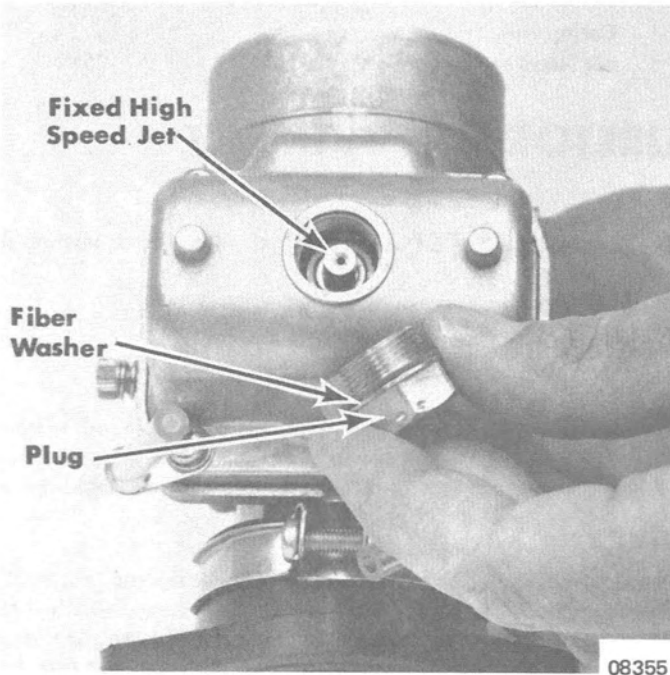

Figure 6. Carburetor Fixed High Speed Jet
1. Each carburetor is equipped with a replaceable fixed high speed jet. Fixed high speed jet is located in carburetor float bowl and is visible when plug and fiber washer are removed from float bowl. (Figure 6) Each jet is stamped with a number which indicates maximum amount of fuel flow that it can meter; i.e., No. 310 stamped on jet indicates that 310cc of fuel can be metered thru that jet in one (1) minute.